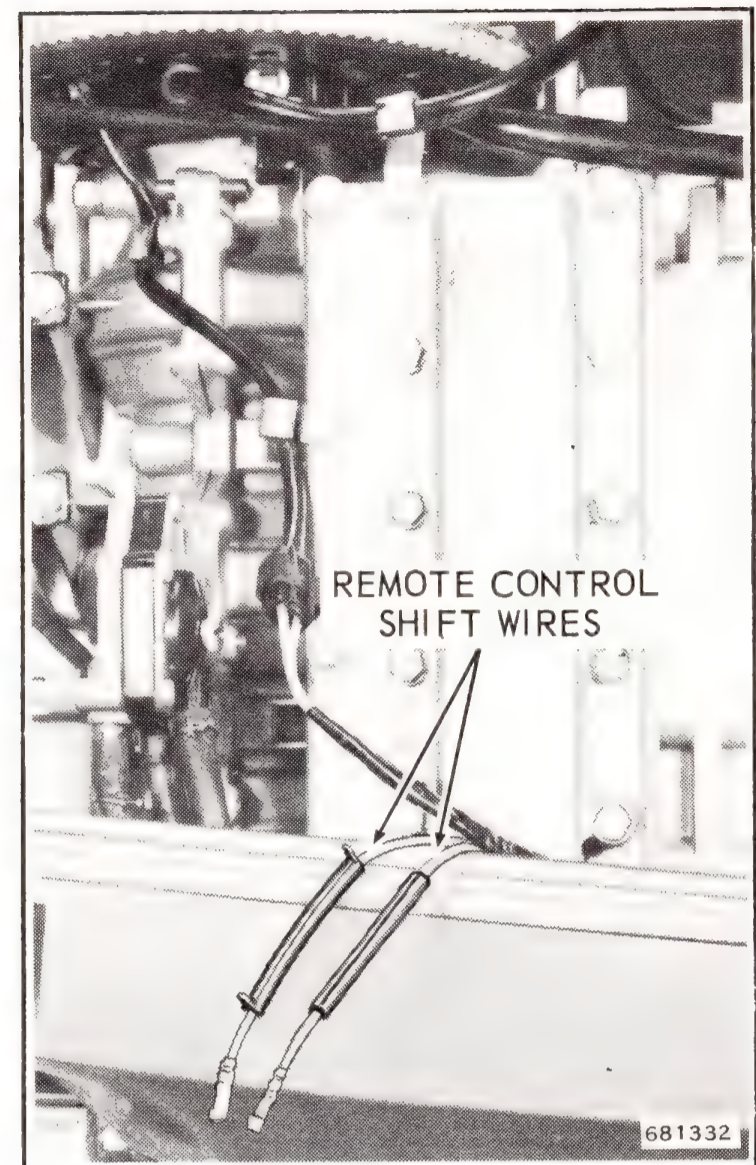

Figure 6-7. Disconnect Shift Wire Terminals
- c. Slide back the insulating sleeve on the shift cable wires so the terminals between the shift cable and motor cable can be disconnected. Terminals are located on port side adjacent to power head exhaust bypass cover. Disconnect terminals. See Figure 6-7.